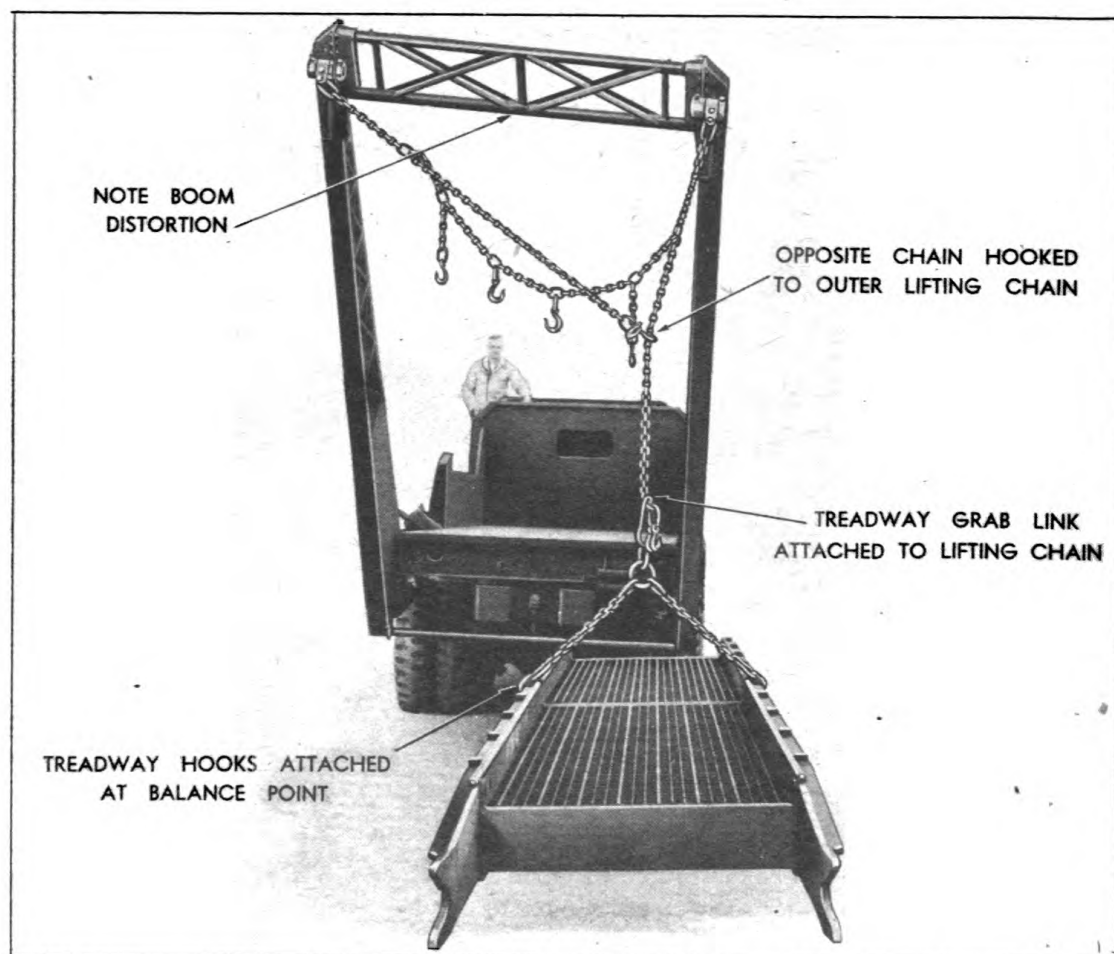

Figure 31. Handling Two Treadways on One Side. Note Boom Distortion
(1) An unbalanced load is detrimental to both the hydraulic mechanism and the truck chassis, and, it is therefore advisable, wherever practicable to balance the load, even if it is necessary to move the truck to one side or the other to eliminate any undue twisting of the chassis frame itself.
(2) There may be occasions where it will be necessary to handle only two treadways connected, end to end, on one side of the boom as shown in Figure 31. We call your attention to the distortion of the boom under this load when applied to one side of the boom assembly. **THIS ABSOLUTELY IS THE MAXIMUM LOAD THAT SHOULD EVER BE APPLIED TO ONE SIDE OF THE BOOM.** Any load greater than this may cause the upper boom support to bend or twist beyond its elastic limit and may damage the truck chassis.
(3) The correct chain hook-up for lifting two treadways on one side is shown in Figure 31. Attach a lower treadway hook assembly to the outer lifting chain, fastening it a link above the end connecting link. Attach the treadway hooks to the treadway flanges at the balance point as shown in the figure. Then bring the opposite outer lifting chain over and fasten it to the first lifting chain at the point shown, or about fifteen chain links below the large connecting link. **IMPORTANT:** Use the GRAB LINK for fastening the opposite chain to the chain lifting the load. The second lifting chain transmits part of the load to the opposite boom and prevents permanent boom distortion. **ALWAYS USE BOTH CHAINS.**